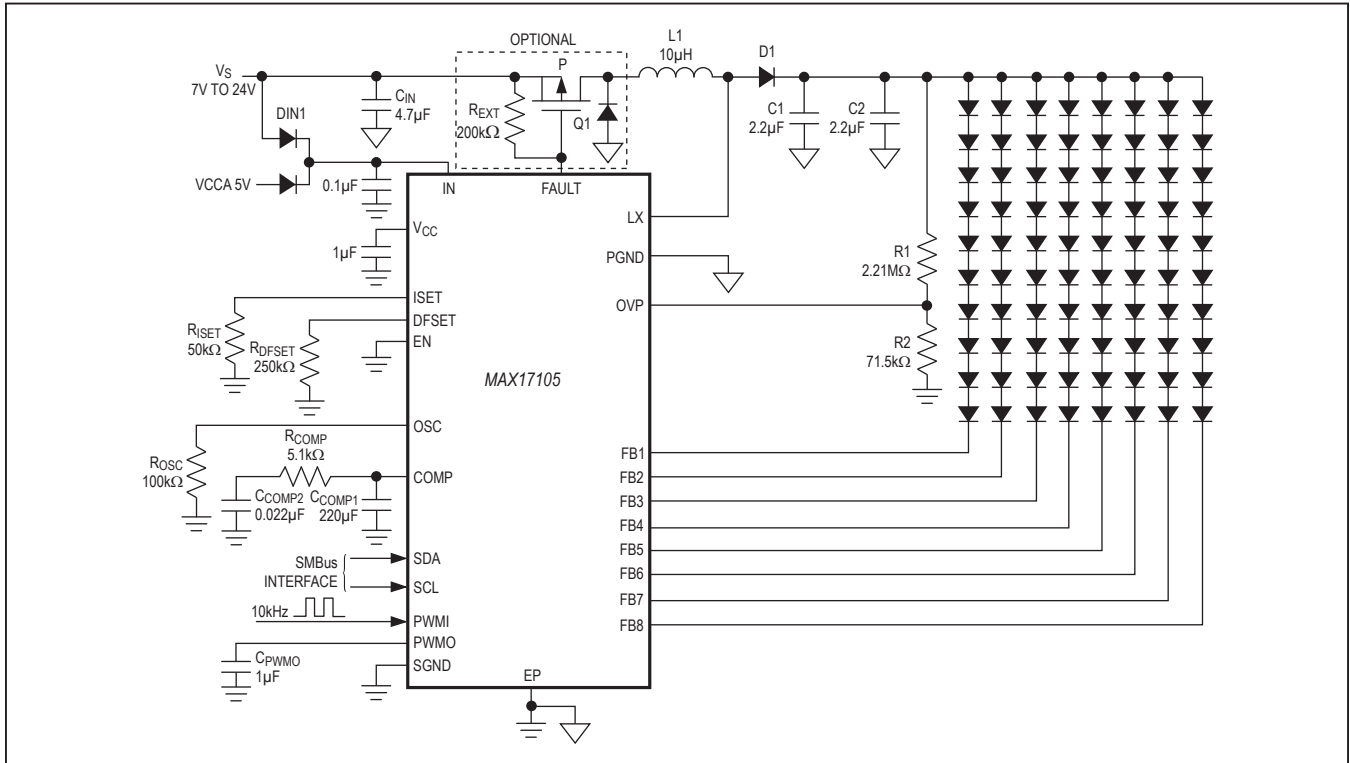

Figure 1. Typical Operating Circuit
Circuit of Figure 1. $V_{IN} = 12V$, $C_{COMP} = 33nF$, $R_{COMP} = 1k\Omega$, $R_{ISET} = 50k\Omega$, $R_{OSC} = 100k\Omega$, $R_{DFSET} = 250k\Omega$, $PWMI = SGND$, $C_{PWMO} = 1\mu F$, $T_A = -40^\circ C$ to $+85^\circ C$, unless otherwise noted. Typical values are at $T_A = +25^\circ C$.) (Note 2)
- Note 4:** Minimum voltage drop from V_S to IN pin, including the forward voltage drop of diode DIN1 used in Figure 1, should be no less than 0.8V. If lower forward voltage drop diode is used, upon step-up regulator input V_S removal, an OC fault may occur, resulting in SMBus status register OV_CURR and $FAULT$ bits being set to 1 and violating SMBus specifications.
The MAX17105 typical operating circuit is shown in Figure 1. Table 1 lists some recommended components, and Table 2 lists the contact information of component suppliers.